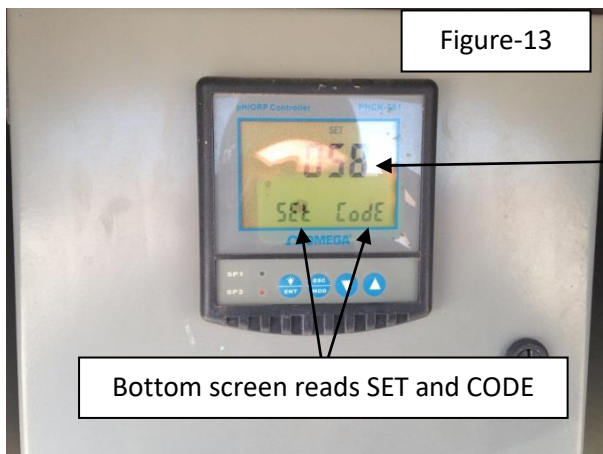

Figure-13
2.3.2.2. Use up arrow (▲) button to scroll to code number 58. See Figure-13 above.